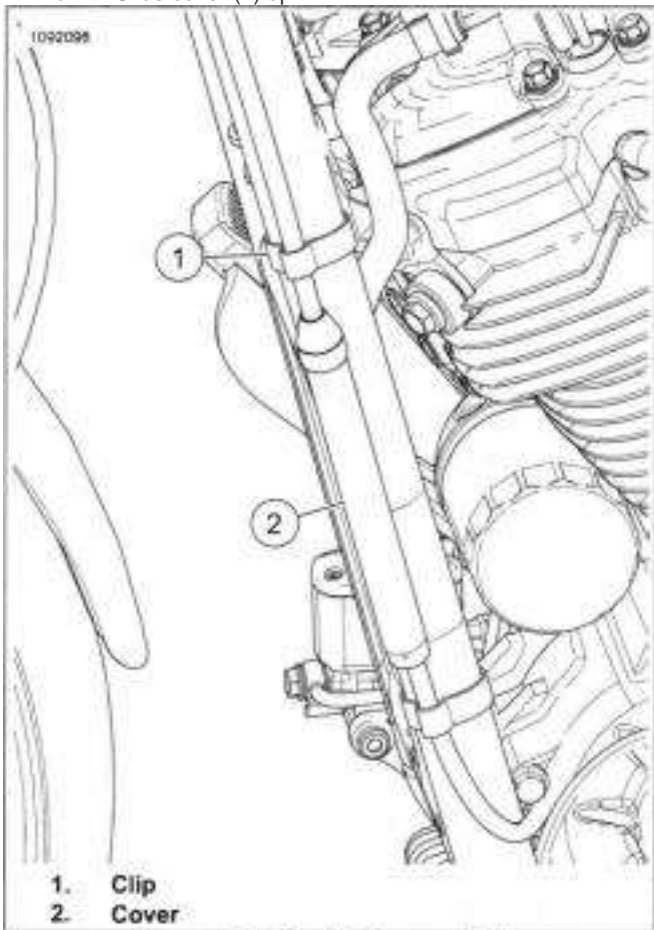

Figure 2-23. Clutch Cover and Clip
2. See Figure 2-23. Access two piece clutch cable.
- a. Remove spring clip (1).
- b. Slide cover (2) up.
- a. Check free-play (4) at clutch lever.
12. See Figure 2-23. Slide cover down and reinstall spring clip (1).